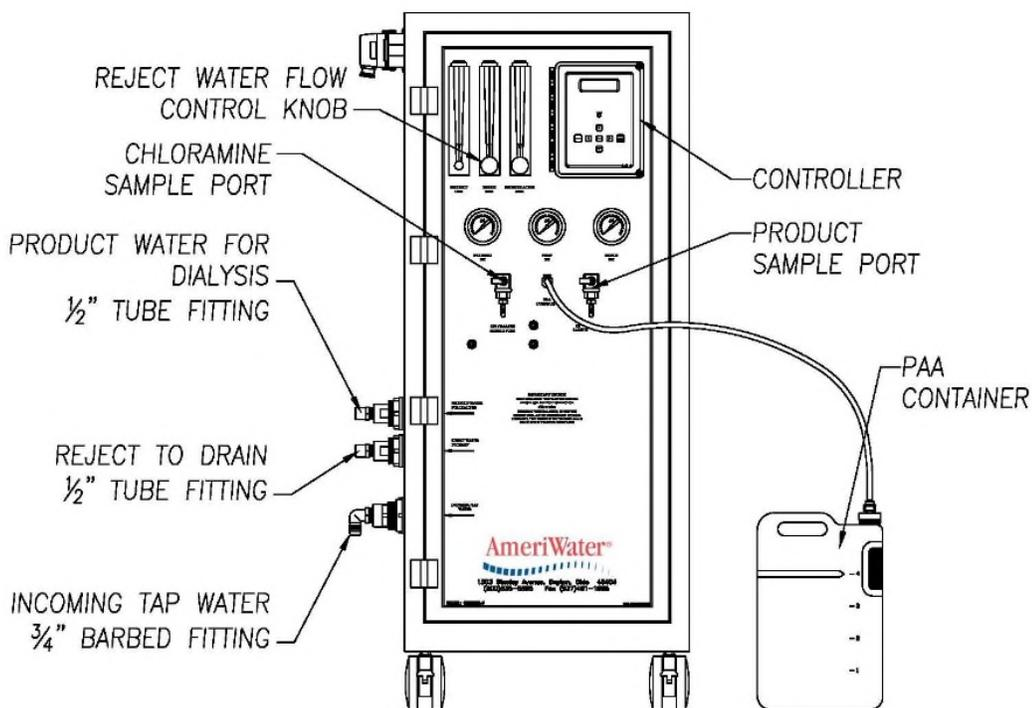

FIGURE 5.1
11. Connect the PAA tubing male fitting into the quick disconnect fitting that is mounted on the front of the MRO (Figure 5.1).
16. Adjust the REJECT flow control knob so that the PAA will be drawn into the MRO in about 2 minutes. (Figure 5.1) The REJECT flow amount will have to be determined the first time the PAA is drawn in, and noted so that it will empty the container in about 2 minutes.